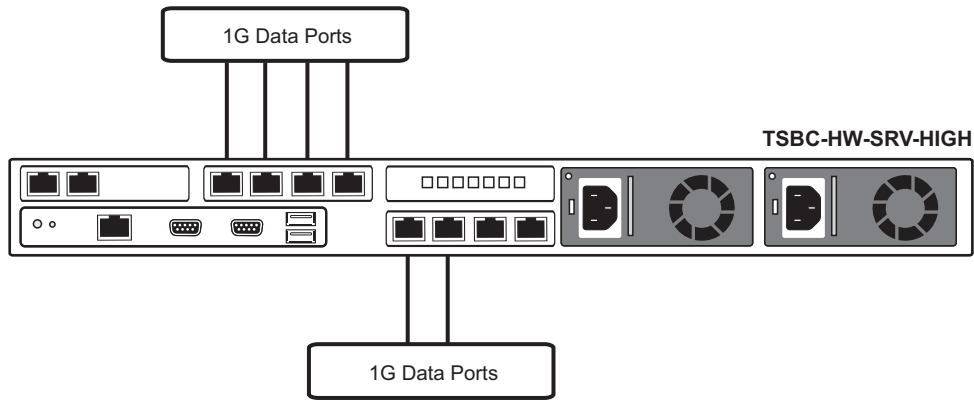

Figure 3.3 TSBC-HW-SRV-HIGH: Connecting to the Data Network
- To connect the TSBC-HW-SRV-HIGH to the data network, refer to figure 3.3 on page 19.